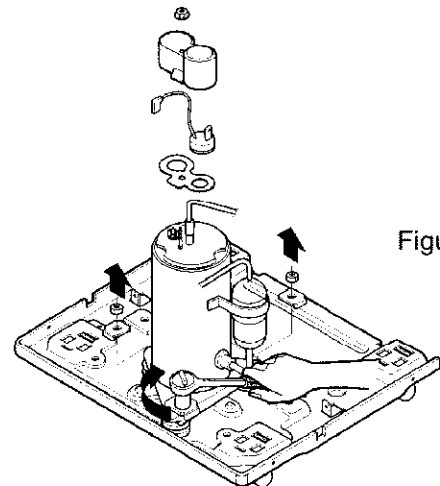

Figure 20
4. Remove the compressor mounting bolts. (See Figure 20.)
5. Remove the compressor. (See Figure 20.)